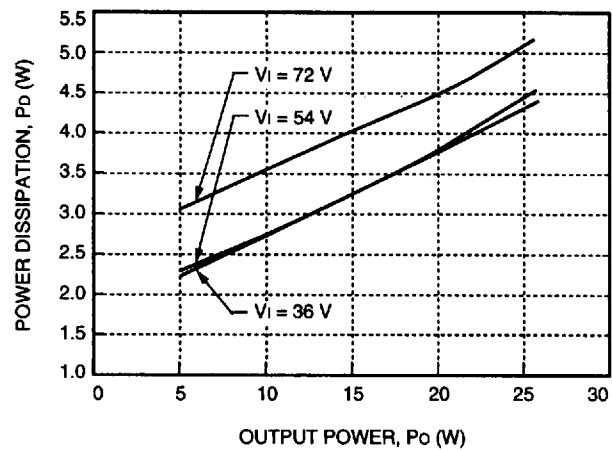
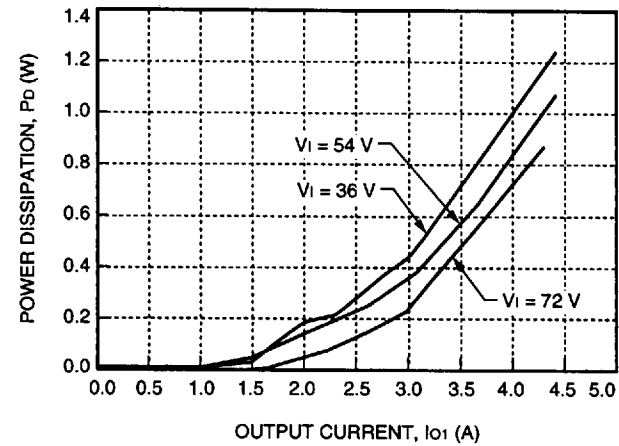
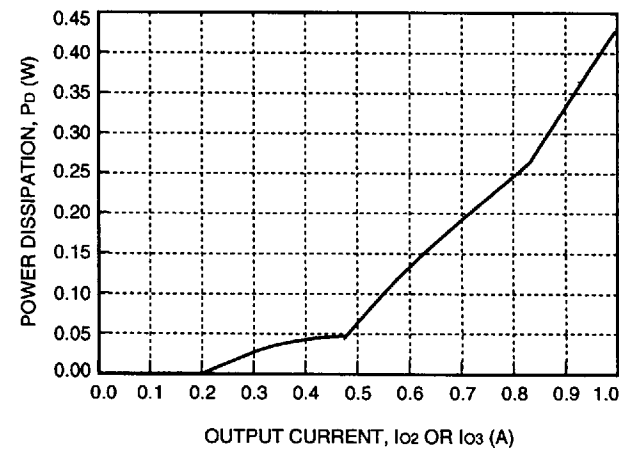

Figure 23. DW025ABK Fixed Losses, P_p
Figure 25. DW025ABK, DW025ACL Losses, Associated with 5 V Output, P_{s1}
Figure 26. DW025ABK, Losses Associated with ± 12 V Output, P_{s2}/P_{s3}
The maximum operating temperature of the DW025 Triple Output-Series Power Modules at a given operating condition can be predicted by combining the power dissipation curves (Figures 23 through 27), the power derating curve (Figure 28), and the thermal resistance curve (Figure 29).
Use Figures 23 through 29 and the steps below to predict the safe operating region for many different operating and environmental conditions.
2. Use P_{ototal} with the appropriate figure (Figure 23 or 24) to determine the fixed losses (P_{p}) associated with operating at P_{ototal} . These losses are independent of which output the load is being drawn from.
3. Use the desired output current (I_{o1}) with Figure 25 to determine P_{S1} , which is the additional power being dissipated due to loading of the main output.
4. Repeat Step 3 for outputs 2 and 3 using the appropriate figure (Figure 26 or 27) to determine P_{S2} and P_{S3} , which is the power dissipated due to loading of the auxiliary outputs.
$$\begin{aligned} P_{\text{p}} &= 4.4 \text{ W (from Figure 23)} \\ P_{\text{S1}} &= 0.22 \text{ W (from Figure 25)} \\ P_{\text{S2}} &= 0.06 \text{ W (from Figure 26)} \\ P_{\text{S3}} &= 0.06 \text{ W (from Figure 26)} \end{aligned}$$